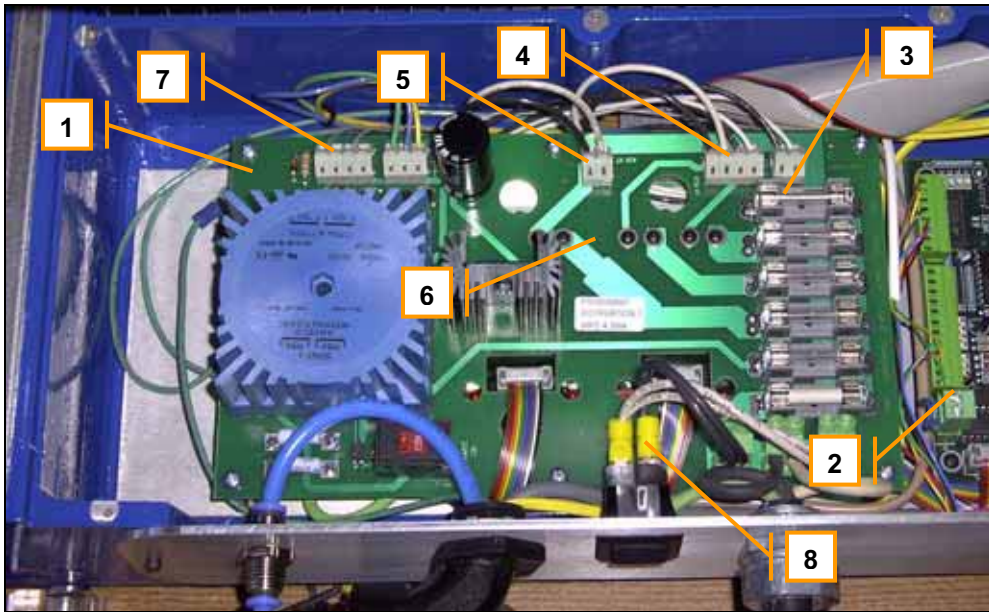

Figure 35: Power Distribution Board
3. To replace fuses, first find and correct the cause of the blown fuse, then remove the base cover plate (Fig. 7, Item 5), locate the appropriate fuse on the power board (Fig. 35, Item 3), and replace the fuse with one of the same type and rating. Reinstall the cover.
Table for Figures 35 and 36: